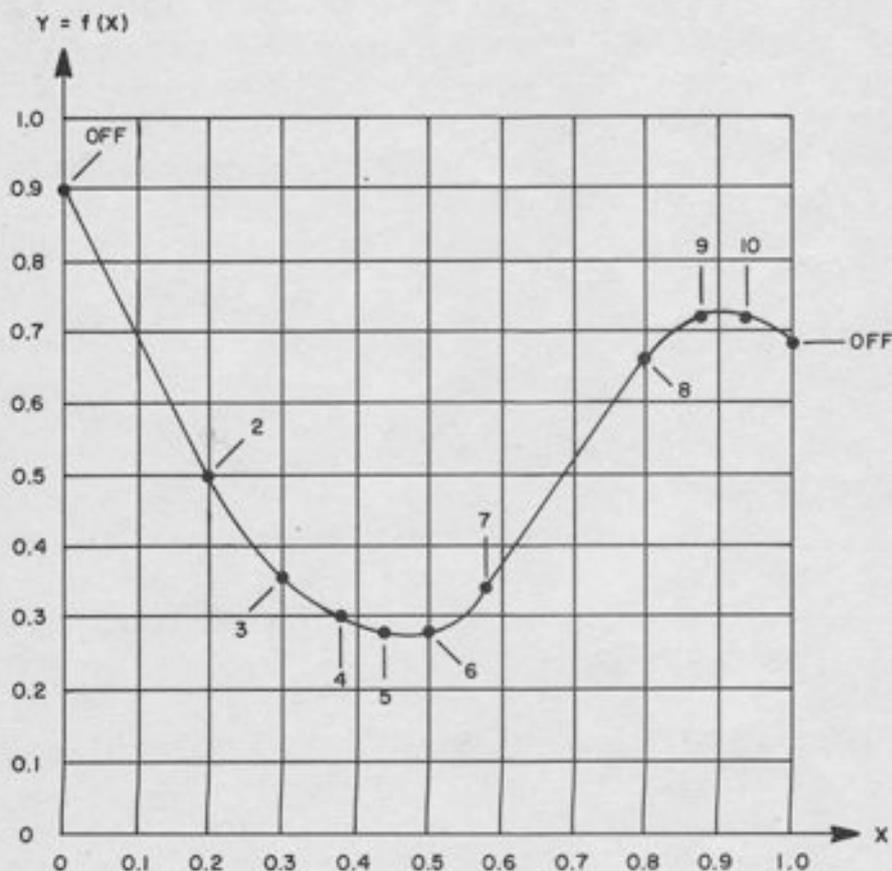

Figure 10.2. Typical Ten-Segment Function
As an example, consider Figure 10.2. This curve represents an arbitrary function, scaled on a unit basis, so that both input x and output $f(x)$ vary from zero to unity. The procedure starts by noting the two areas where the function is almost straight, namely $0 \leq x \leq 0.2$ and $0.6 \leq x \leq 0.8$. There would be little point in putting any breakpoints here, so the process starts by drawing two fairly long segments to approximate the function over these intervals.
Based on the 6-3 split, the breakpoint location in Figure 10.2 was determined. No claim is made that it is the absolute optimum, but it is a fairly good fit, and easily arrived at. In using the visual technique, there is no substitute for experience; the above rules and example are intended only as a rough guide.
As an example, consider the function in Table 10.1. This is the same function that was given graphically in Figure 10.2. Note that since 10 segments are to be used, the function is tabulated at 11 points, including the 2 endpoints and 9 breakpoints. A "+" DFG is assumed, and the endpoints are fixed at 0 and 1.
10.3.3.5 *Preliminary Steps.* Once the DFG SETUP switch is turned on, select the proper settings on the rotary switches at the rear of the drawer. The "10 SEG/20 SEG/INV" switch should be in the "10 SEG" position, which separates the unit into two independent 10-segment DFG's. The switch marked "MULT" determines the maximum slope change per segment; rules for determining the best setting are covered in Paragraph 10.3.4. For a relatively "mild" function such as the one in Figure 10.2, a setting of "1" is adequate.